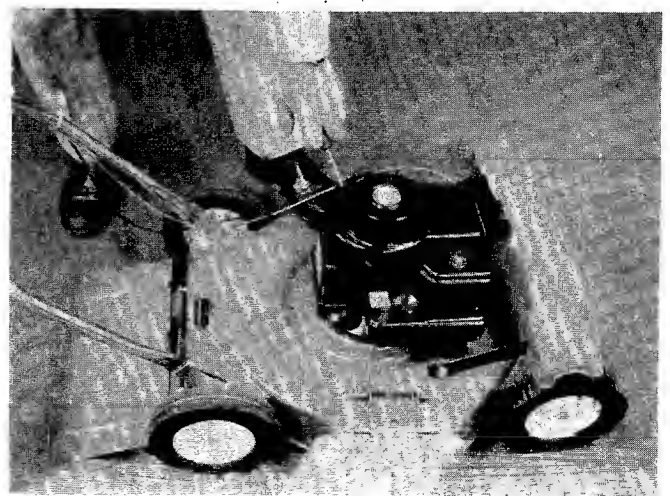

FIGURE 11.
2. Place foot on the left side of the deck and hold handle to prevent tipping the unit. Grasp starter handle as shown in figure 11 and pull out rapidly. Return it slowly to the engine. Repeat if necessary.